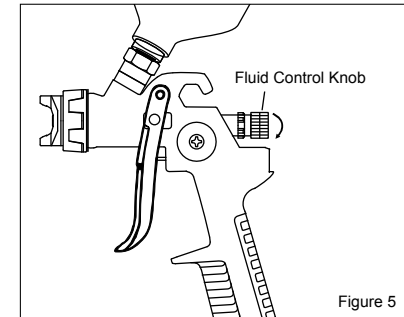

Figure 5
2. Turn the fluid control knob fully clockwise until closed. (See Figure 5)